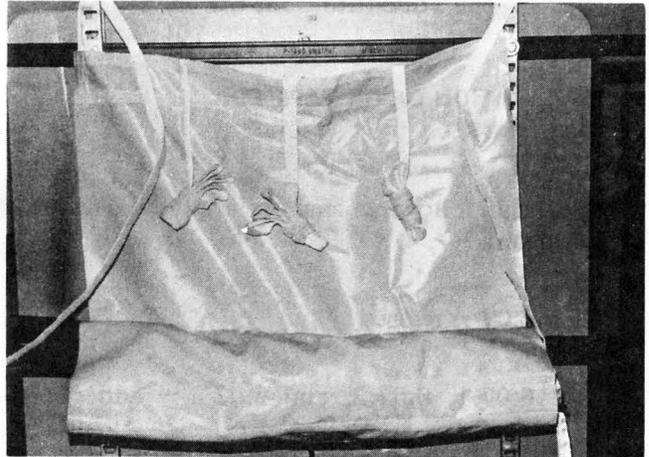

Fig. 18
1. Drape the boot cover behind the CR Taped splice as shown in Fig. 18.